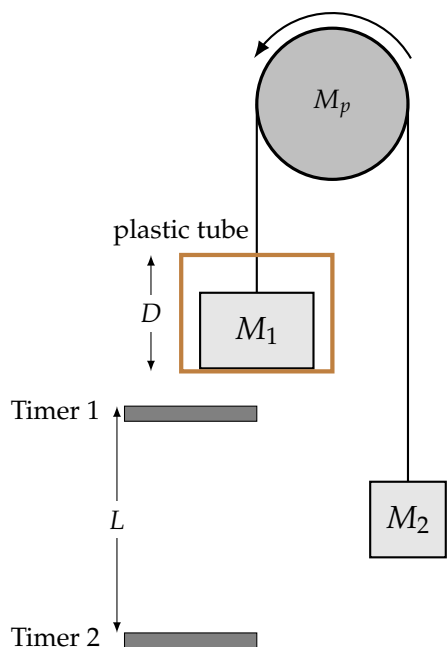

Figure 3: Setup with two photogate timers.
In the first part of the lab, you will measure the acceleration  $a$  and then compute  $g$  using digital timers. The mass  $M_1$  is placed in a plastic tube that triggers the timers as it passes through them. The setup is shown in Fig. 3.
3. Measure the distance  $L$  from the top of one photogate to the top of the other (see Fig. 3). Enter your measurement in Table 1.